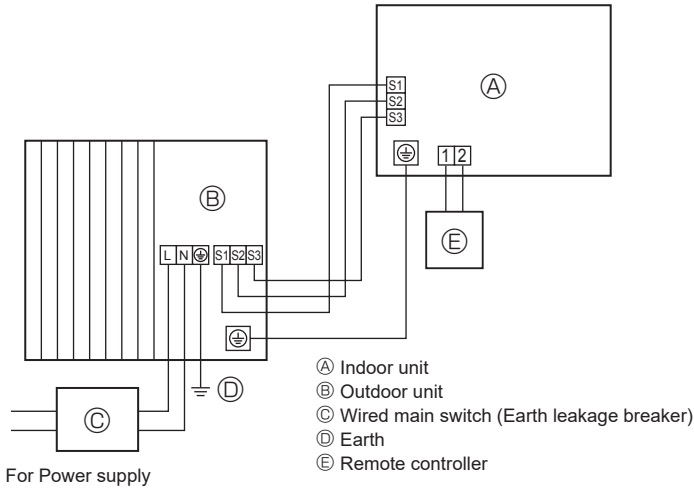
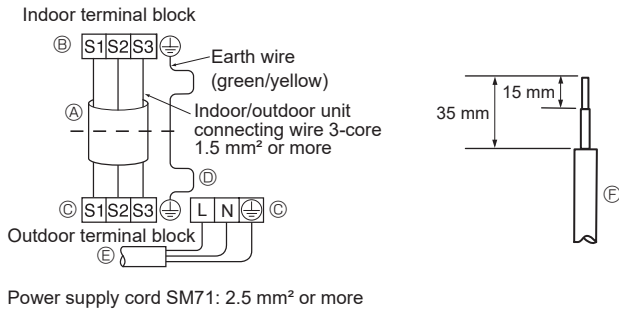
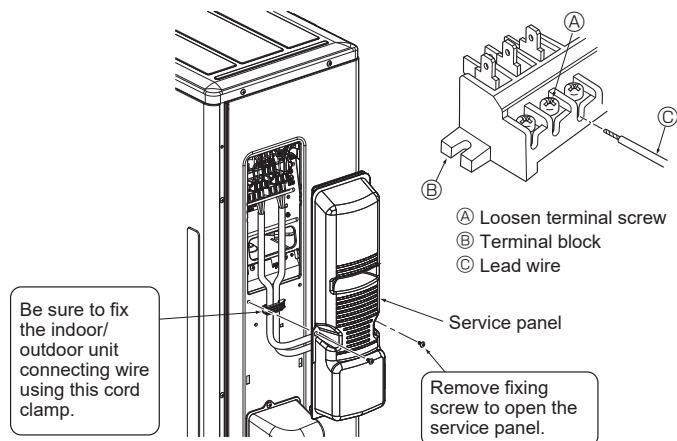

Fig. 6-1
Fig. 6-2
Fig. 6-3
### 6.1. Outdoor unit (Fig. 6-1, Fig. 6-2, Fig. 6-3)
- ① Remove the service panel.
- ② Wire the cables referring to the Fig. 6-1, Fig. 6-2 and the Fig. 6-3.
- Perform wiring as shown in the diagram to the lower left. (Procure the cable locally) (Fig. 6-2)